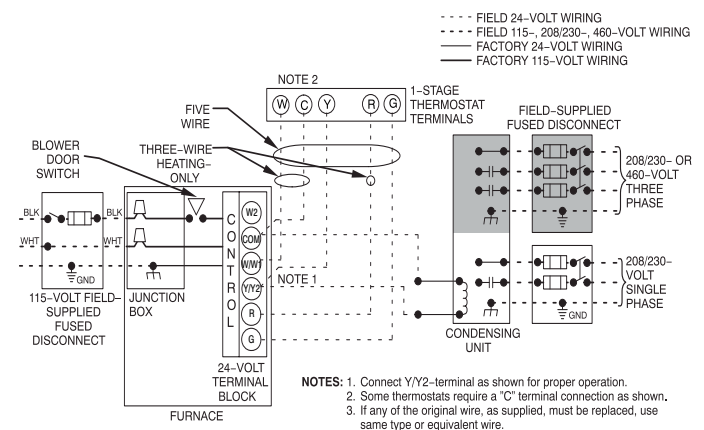

Fig. 33 – Typical Field Wiring Diagram
See Fig. 33 for field wiring diagram showing typical field 115-V wiring. Check all factory and field electrical connections for tightness.
6. Connect power cord power and neutral leads to furnace power leads as shown in Fig. 33.
5. Connect field power and neutral leads to furnace power leads, as shown in Fig. 33.